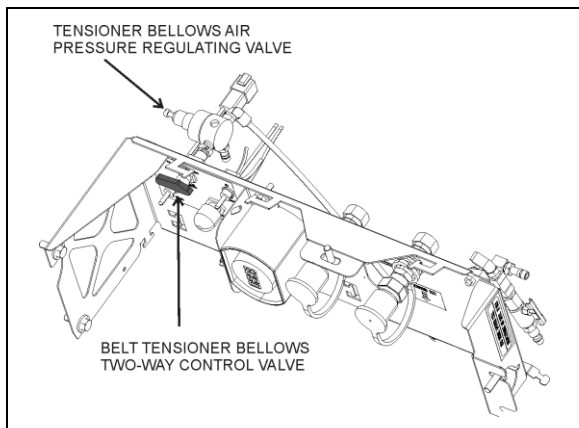

FIGURE 26: BELT TENSIONER CONTROL VALVE - H3 SERIES
2. For vehicles equipped with a 3rd alternator, belt tensioning is also applied through air bellows (Figure 24). Turn the belt tensioner two-way control valve counterclockwise to release bellows pressure (Figure 26).
For vehicles equipped with a 3rd alternator, (Figure 24) belt tensioning is also applied through air bellows which is adjusted by an air pressure regulating valve pressure (Figure 26 or Figure 27). The correct pressure of 45 psi is set at the factory. Periodically verify the pressure at the regulating valve using a pressure gauge and correct if required.
Belt tensioning is applied through air bellows which are adjusted by an air pressure regulating valve (Figure 26). The correct pressure of